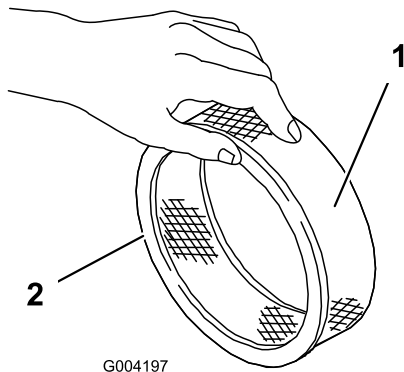

Figure 19
5. Lightly tap the paper filter on a flat surface to remove dust and dirt (Figure 19).
1. Carefully slide the foam pre-filter onto the paper filter (Figure 19).